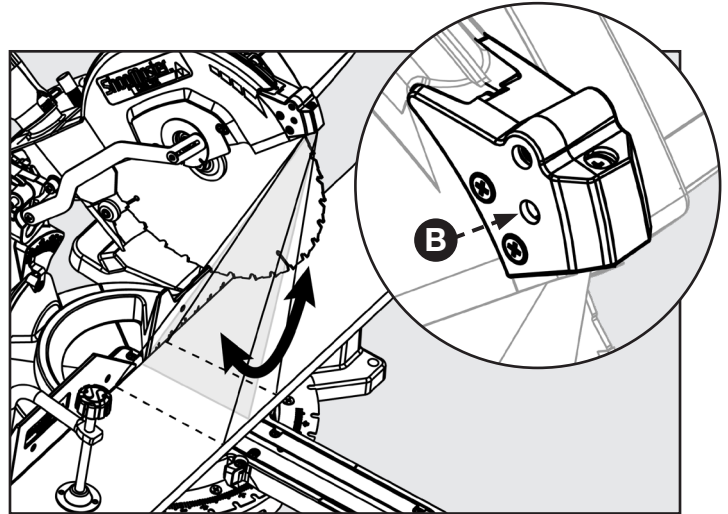

FIGURE 28
If you notice the laser line does not remain parallel to the blade as the saw head is lowered to make a cut refer to Figure 28 and follow these instructions: using a Phillips head screwdriver turn the screw (B) to adjust the vertical angle of the laser.